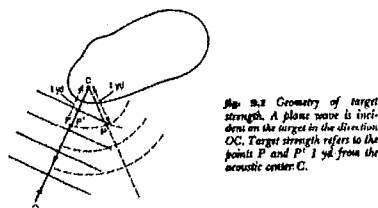

Fig. 1. Definition of the target strength, TS
Target strength (TS) is defined as the ratio between the sound energy, incident on the target, and the return (echo), referred to a unit distance (conventionally 1 m) from the acoustic center of the target (Fig. 1, from Urick, 1983).